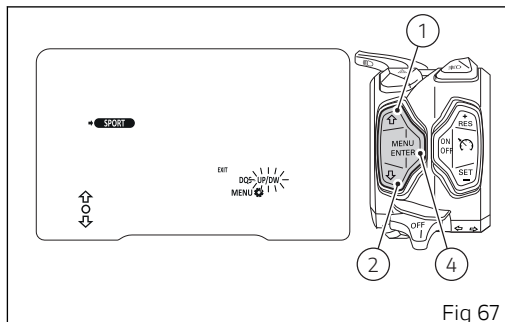

Fig 67
When entering the function, the DQS value starts flashing (Fig 67). Use buttons (1) and (2) to set required value, which can be "DQS - UP/DW" or "DQS -" (OFF), i.e. DQS disabled. To confirm, press the button (4).